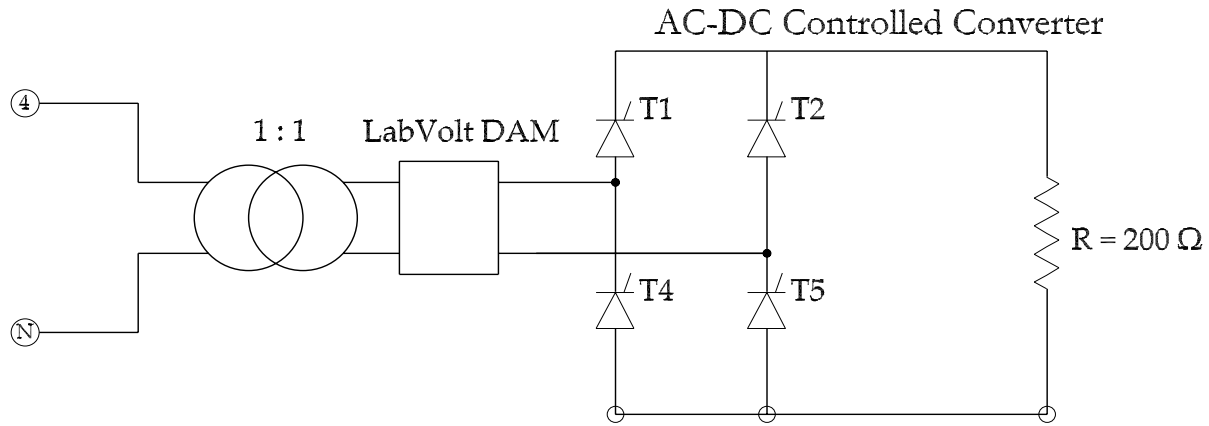

Figure 1: The 1ϕ full-wave controlled rectifier and both load types.
STEP 1: Construct the circuit shown in Figure 1.